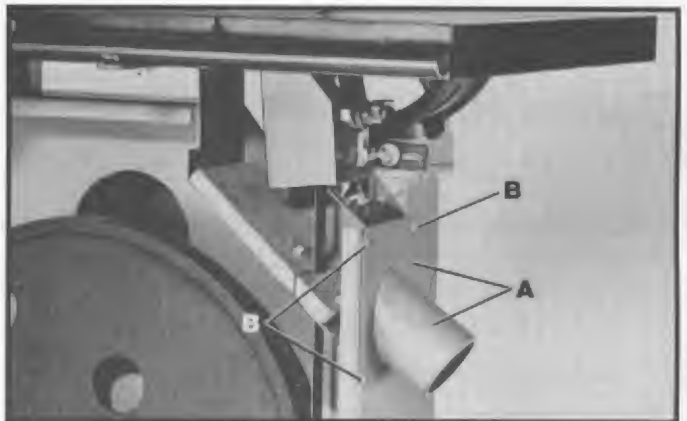

Fig. 4
1. Assemble the dust chute (A) Fig. 4, to the machine using the four screws, three of which are shown at (B).